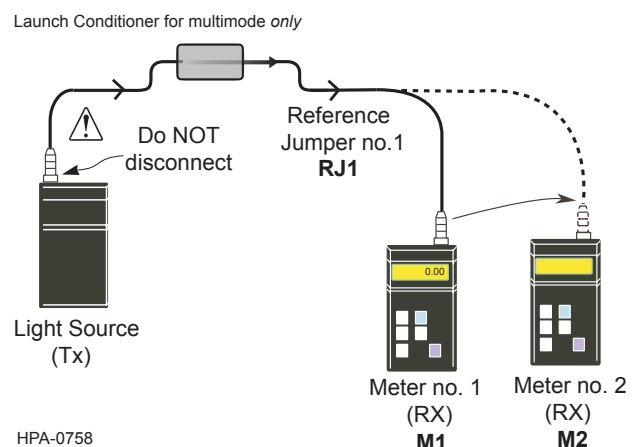

Figure 6
Step 2: Clean and insert the LC end of **RJ1** jumper into the LC port adapter of Meter no. 1 (**M1**) (Figure 6).